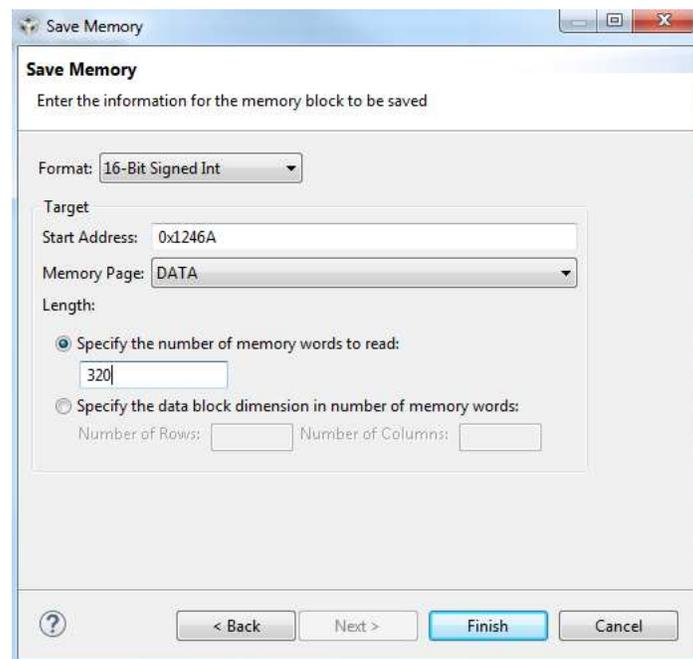

Figure 22. Format to Use to Save the Audio Samples in dig-mic-decimation_test_output.dat
15. Save the data in the format as shown in Figure 22 and click Finish.